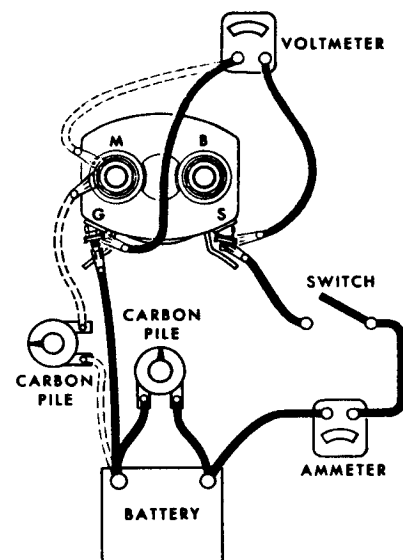

Figure 19—Checking solenoid hold-in and pull-in windings. (Note: Terminal locations may vary.)
the specified voltage, a switch, and an ammeter to the two solenoid windings. With all leads disconnected from the solenoid, make test connections as shown to the solenoid switch (S or SW) terminal and to ground, or to the second switch terminal, (G), if present, to check the hold-in winding (Fig. 19). Use the carbon pile to decrease the battery voltage to the value specified in Service Bulletins 1S-180, 1S-186, 1S-187 and 1S-188 and compare the ammeter reading with specifications. A high reading indicates a shorted or grounded hold-in winding, and a low reading excessive resistance. To check the pull-in winding connect from the solenoid switch terminal (S) to the solenoid motor (M or MOT) terminal.